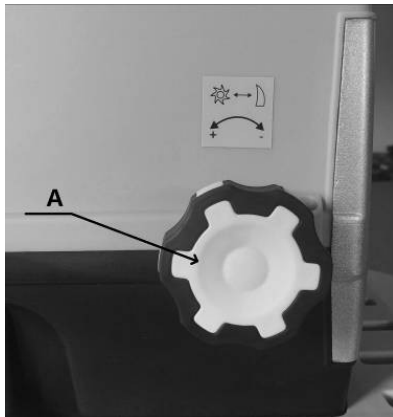

Fig. 5A
- Turn Counterplate Adjusting Knob (A) clockwise until a slight friction noise can be heard and fine aluminium chips fall from the ejector chute for a short period of time. (Fig. 5A and 5B)